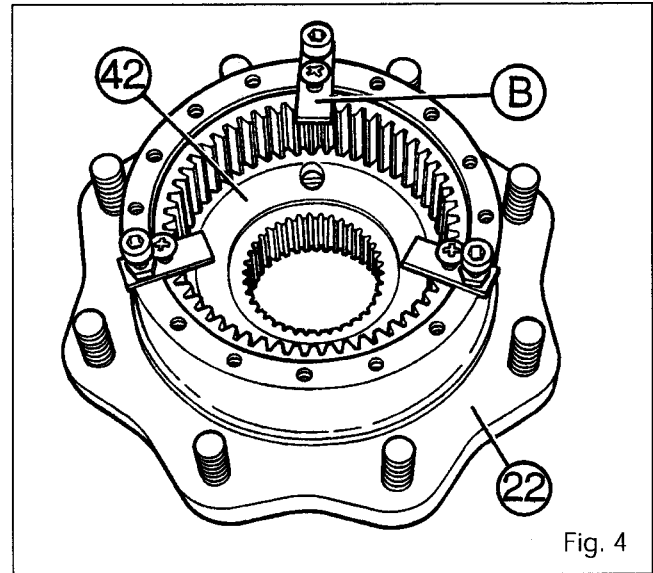

Fig. 4
36. If the cones (18) and (25) and cups (19) and (23) are replaced, fit the new cones (18) and (25) in their respective positions and the cups on the wheel hub.
**Note: The cones (18) (25) and the cups (19) (23) must mandatorily be N series (tolerance on width = 0.1 instead of 0.2). The shimming of these bearings is determined on the basis of the machining tolerances of the swivel housing (47), the hub (22) and the ring gear carrier (42). It is possible to replace each part separately. If the hub (22) does not rotate correctly after fitting, the faulty part must be identified.**
37. Use the following method to fit the ring gear carrier (42) with the hub (22) in order to guide the hub (22) correctly on the seal (45).
38. Lubricate the splines on the swivel housing (47). Use three or four flanges ("B"), (manufactured locally according to the category of axle) screwed in diametrically opposite positions in the holes in the hub. Attach the ring gear carrier (42) to the hub (22) (Fig. 4).